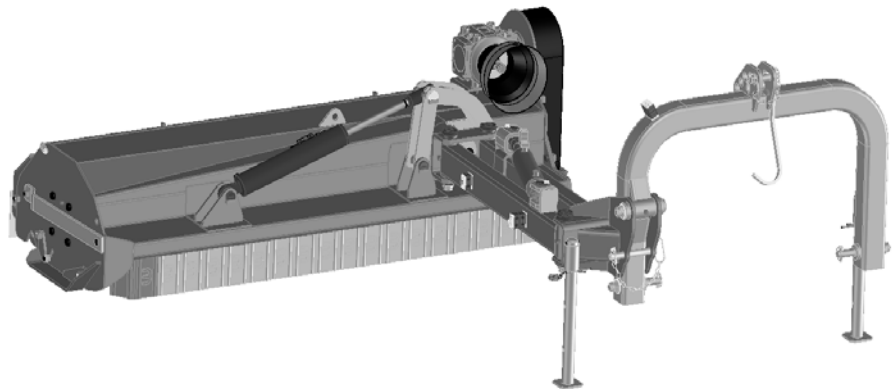

Figure 15
5. The machine is ready for connection to the tractor (figure 15).